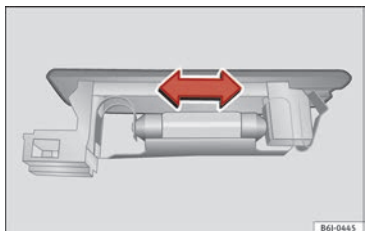

Fig. 122 Boot light.
- Press the bulb sideways and remove it from its housing »» **Fig. 122**.